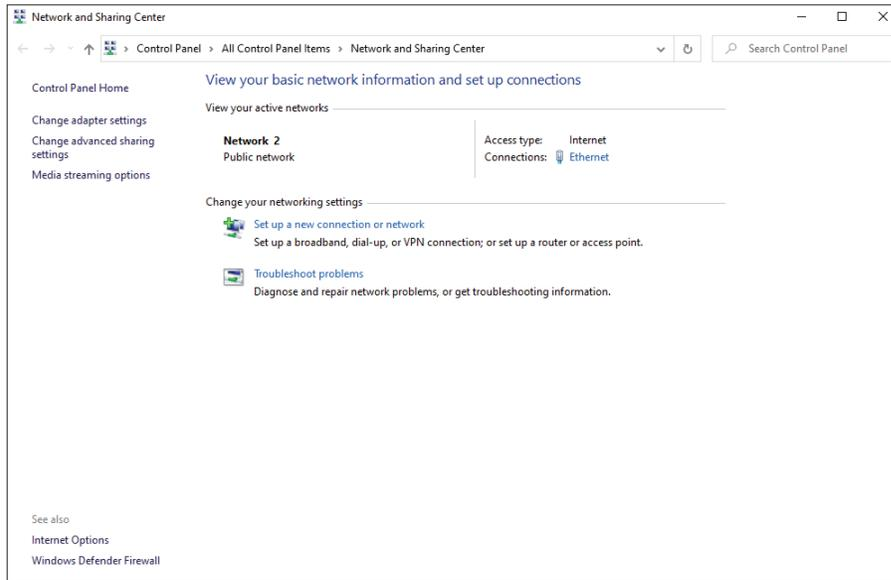

Figure 3
3. Select “Change Adaptor Settings”. (Figure 3)